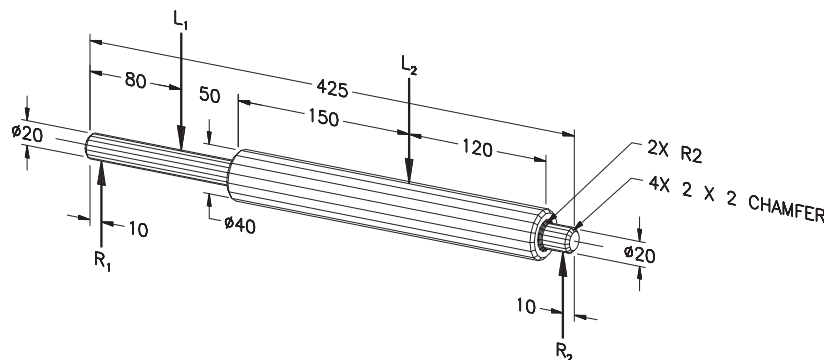

Fig. 28-6
5. Draw the front view of the shaft shown in Fig. 28-6. Use the **Quick Setup** method to change the drawing area to accommodate the dimensions of the drawing. Place the visible lines on a layer named **Visible** using the color green. Create a layer named **Forces** using the color red. Draw and label the four load and reaction forces, using leaders and a text style based on the **romans.shx** font. Create another layer named **Dimensions** using the color cyan. Dimension the front view, placing the dimensions on layer **Dimensions**.